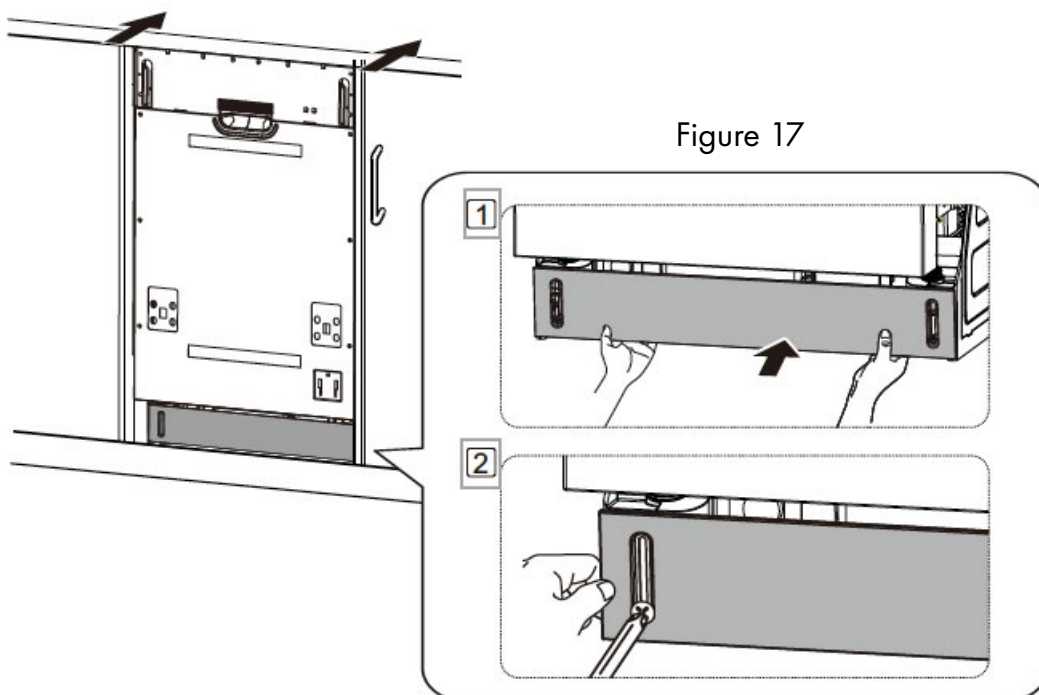

Figure 17
5. To install the kick plate with screw ST3.9*13, refer to Figure 17.